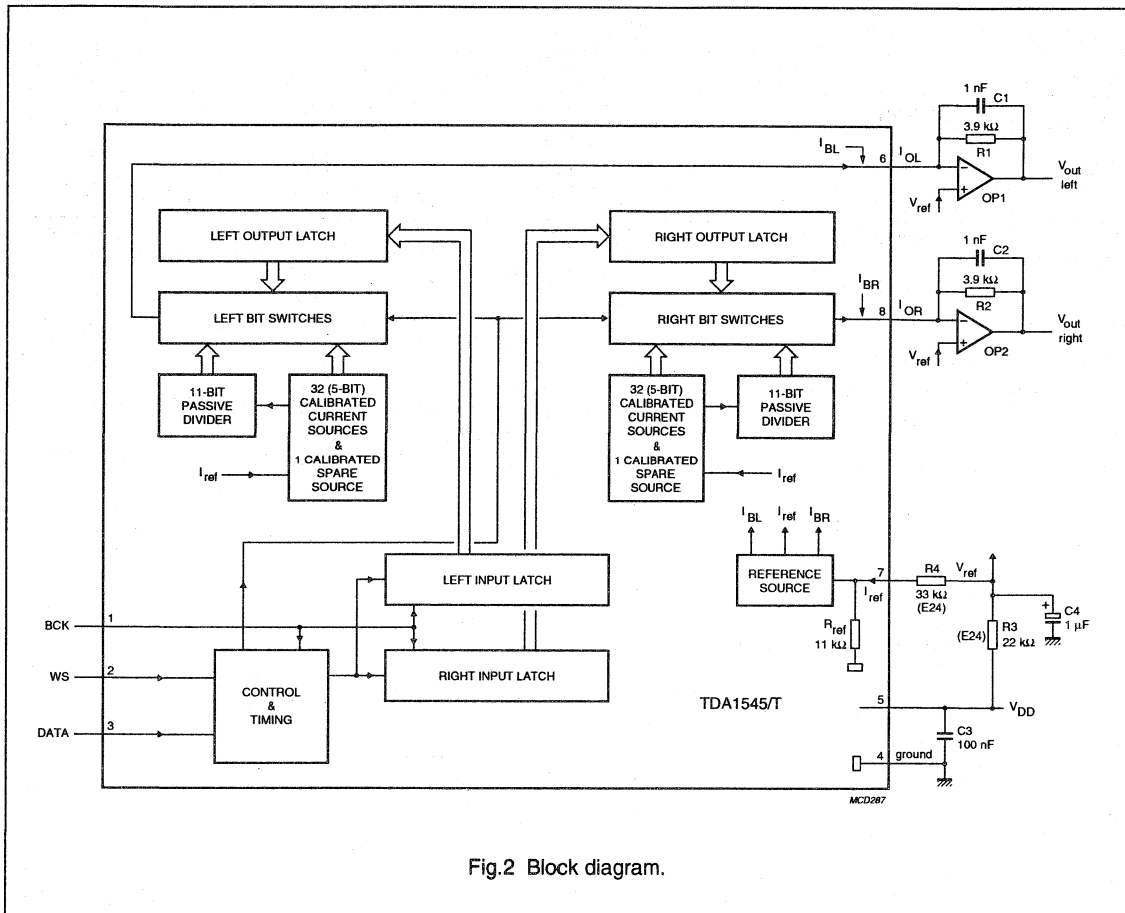
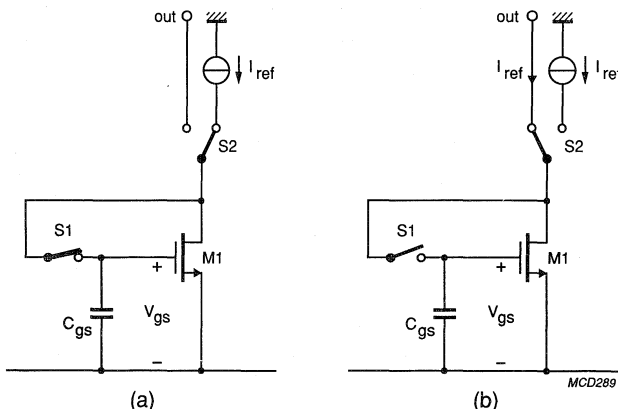

Fig.2 Block diagram.
Fig.3 Calibration principle: (a) calibration, (b) operation.
The basic operation of the continuous calibration DAC is illustrated in Fig. 3. The figure shows the calibration principle (Fig.3a) and operation principle (Fig.3b). During calibration of the MOS current source (Fig.3a) transistor M1 is connected as a diode by applying a reference current. The voltage V_{gs} on the intrinsic gate-source capacitance C_{gs} of M1 is then determined by the transistor characteristics. After calibration of the drain current to the reference value I_{ref} , the switch S1 is opened and S2 is switched to the other position (Fig.3b). The gate-to-source voltage V_{gs} of M1 is not changed because the charge on C_{gs} is preserved. Therefore the drain current of M1 will still be equal to I_{ref} and this exact duplicate of I_{ref} is now available at the I_{out} terminal. The 32 current sources and the spare current source of the TDA1545 are continuously calibrated (see Fig.2). The spare current is included to
allow for continuous converter operation. The output of one calibrated source is connected to an 11-bit binary current divider consisting of 2048 transistors. A symmetrical offset decoding principle is incorporated and arranges the bit switching in such a way that the zero-crossing is performed only by the LSB currents. The TDA1545 accepts input serial data formats of 16-bit word length. Left and right data words are time multiplexed. The most significant bit (bit 1) must always be first. The format of data input is shown in Fig.4 and Fig.5. With a LOW level on the word select input (WS) input data is placed in the right input register and with a HIGH level on the WS input data is placed in the left input register. The data in the input registers is simultaneously latched in the output registers which control the bit switches. An internal bias current I_{bias} (see I_{BL} and I_{BR} in Fig.2) is added to the full scale output current I_{FS} in order to achieve
the maximum dynamic range at the outputs of OP1 and OP2 (see Fig.2). The reference input current I_{ref} controls with gain A_{FS} the current I_{FS} which is a sink current and with gain A_{bias} the I_{bias} which is a source current (note 1). The current I_{ref} is proportional to V_{DD} so the I_{FS} and I_{bias} will be proportional to V_{DD} as well (note 2) because A_{FS} and A_{bias} are constant. The reference output voltage V_{ref} in Fig.2 is $2/3 V_{DD}$. In this way the maximum dynamic range is achieved over the entire power supply range. The tolerance of the reference input current in Fig.2 depends on the tolerance of the resistors R3, R4 and R_{ref} (note 3).